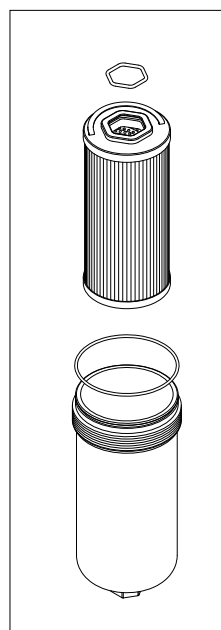

fig. 11
- (Fig. 11) Fit the O-ring in the bowl groove, insert the Hex-ring in the filter element cap